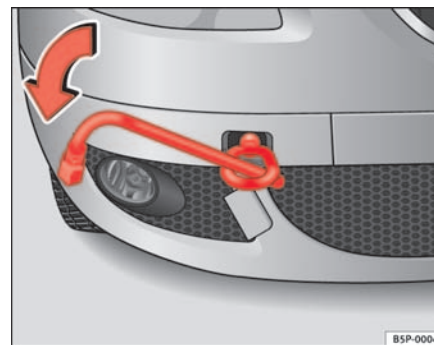
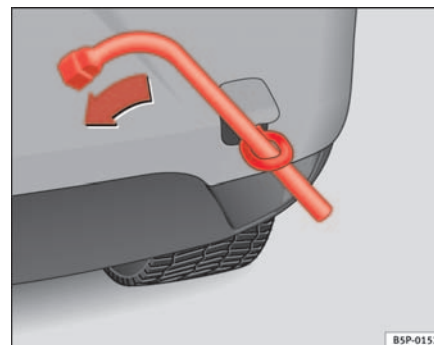

Fig. 195 The front right section of the vehicle: Fitting the front towing eye
Fig. 196 Fitting the towing eye to the rear of the vehicle
- Screw the towing eye as shown by arrow *anti-clockwise* to the limit position in the front ⇒ page 255, fig. 195 or rear ⇒ page 255, fig. 196 threaded hole.